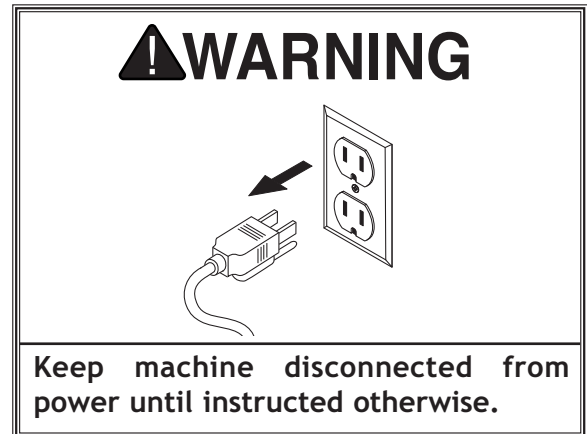

Figure 20. Adjusting the fence parallelism.
2. Lock the fence and loosen the four 5mm cap screws shown in **Figure 20**.